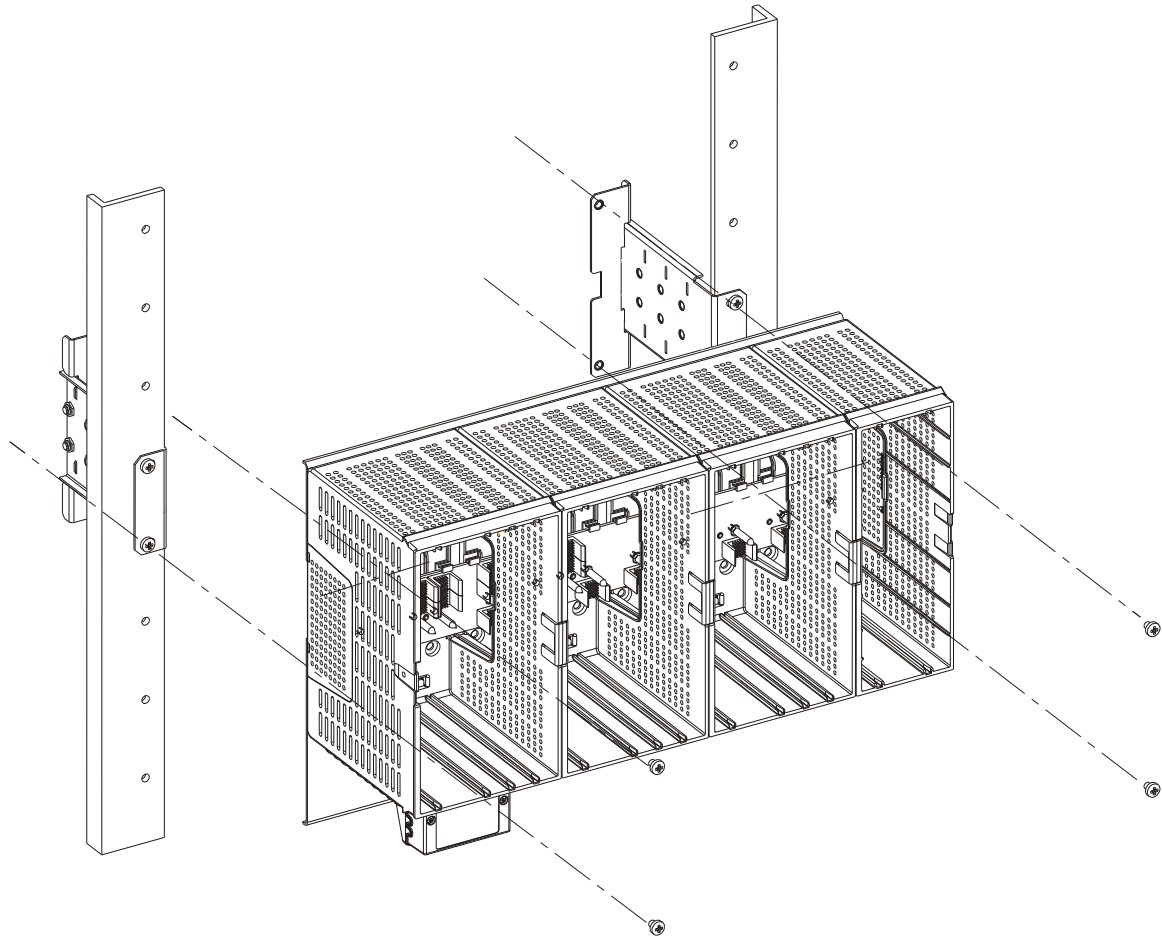

Figure 2-8 Installation of ACE3600 RTU 19" Rack- Exploded View
- 5) Hang the 19" metal chassis on the brackets, so that the two teeth on the back of the metal chassis hook onto the groove of the larger bracket. See Figure 2-8.
- 7) Using two supplied M5 (X6) screws and a 16 cm (6.3") long screwdriver, from inside the slot secure the 19" frame metal back to the small bracket. Repeat on the second side. See Figure 2-8.